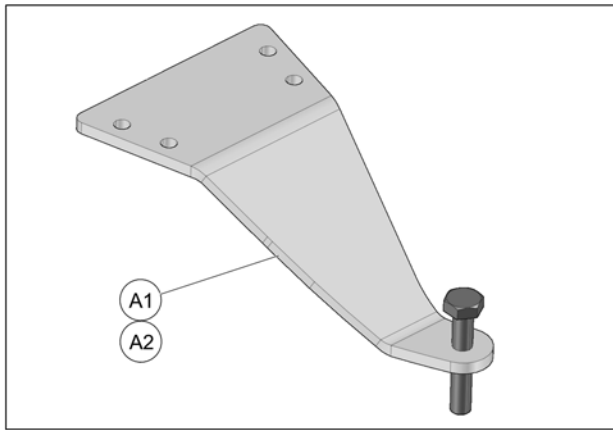

Fig. 14
4. Insert bolt in front anchor bracket (A1-A2) as shown in Fig. 14